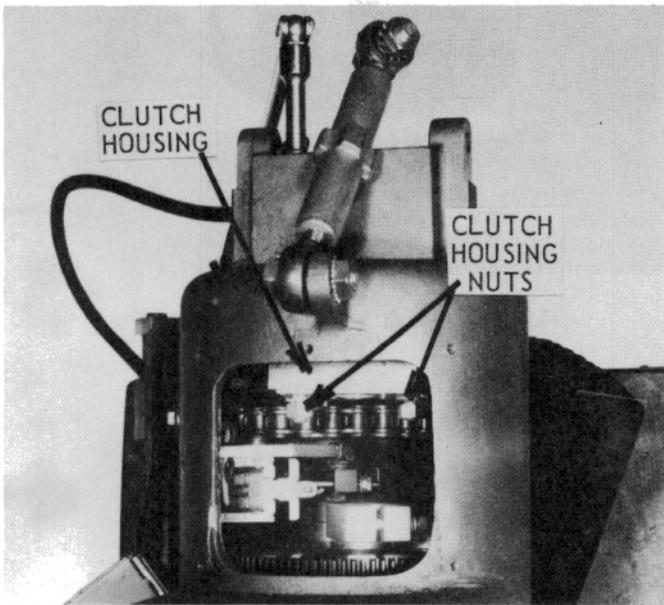

Figure 39 – Mainshaft Clutch Housing Nuts
- 1.2.15 Mainshaft sprag clutches may be examined by removing the two mainshaft clutch housing nuts (see Figure 39) to allow removal of the clutch housing.